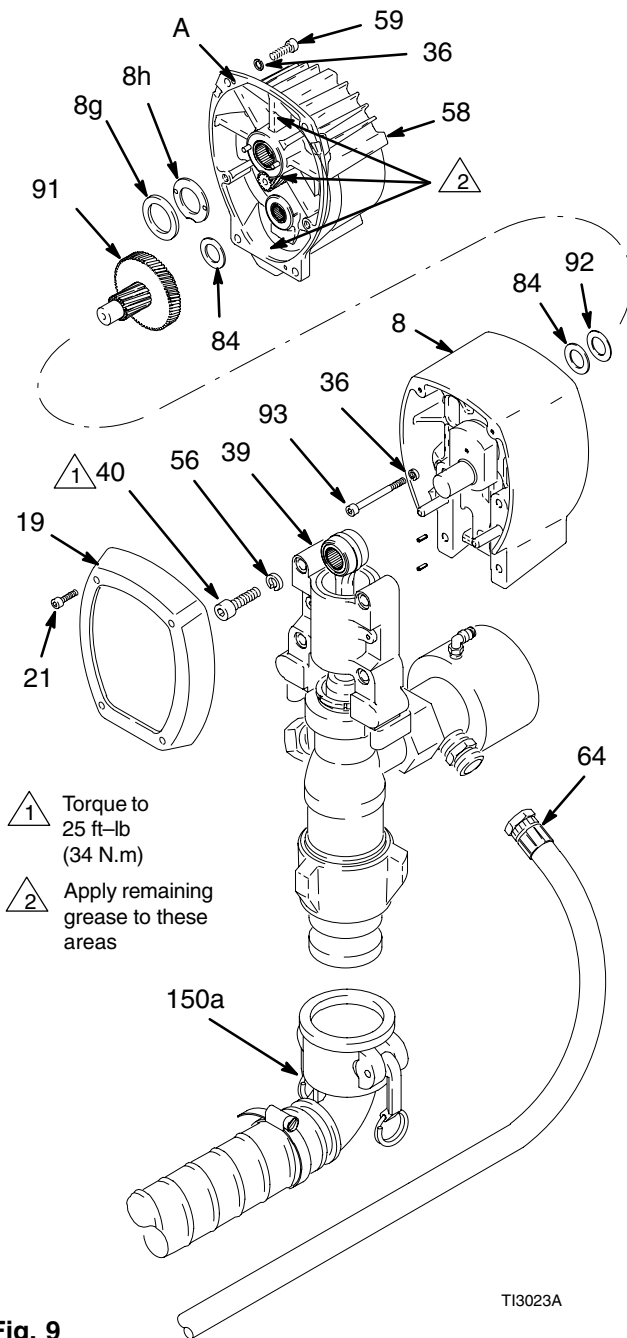

Fig. 9
1. Fig. 9. Disconnect siphon hose elbow (150a), drain hose (64) and material hose (not shown) from pump outlet. Disconnect cables. Remove screws (21) and front cover (19).
2. Remove four screws (40) and lockwashers (56) from bearing housing (39).
3. Lightly tap back of bearing housing (39) with a plastic mallet. Pull pump, bearing housing and connecting rod away from drive housing (8) as one assembly.
4. Remove bearing housing screws (93) and lockwasher (36) and pinion housing screws (59) and lockwashers (36).
5. Lightly tap around drive housing (8) to loosen drive housing. Pull drive housing straight off pinion housing (58). Be prepared to support combination gear (91), which may also come out.
6. Liberally apply bearing grease (supplied with combination gear) to combination gear (91) and to areas called out by note 2.
7. Place bronze colored washer (8g) and then silver-colored washer (8h) on shaft protruding from big bearing of drive housing (8). Align gears and push new drive housing straight onto pinion housing and locating pins (A).